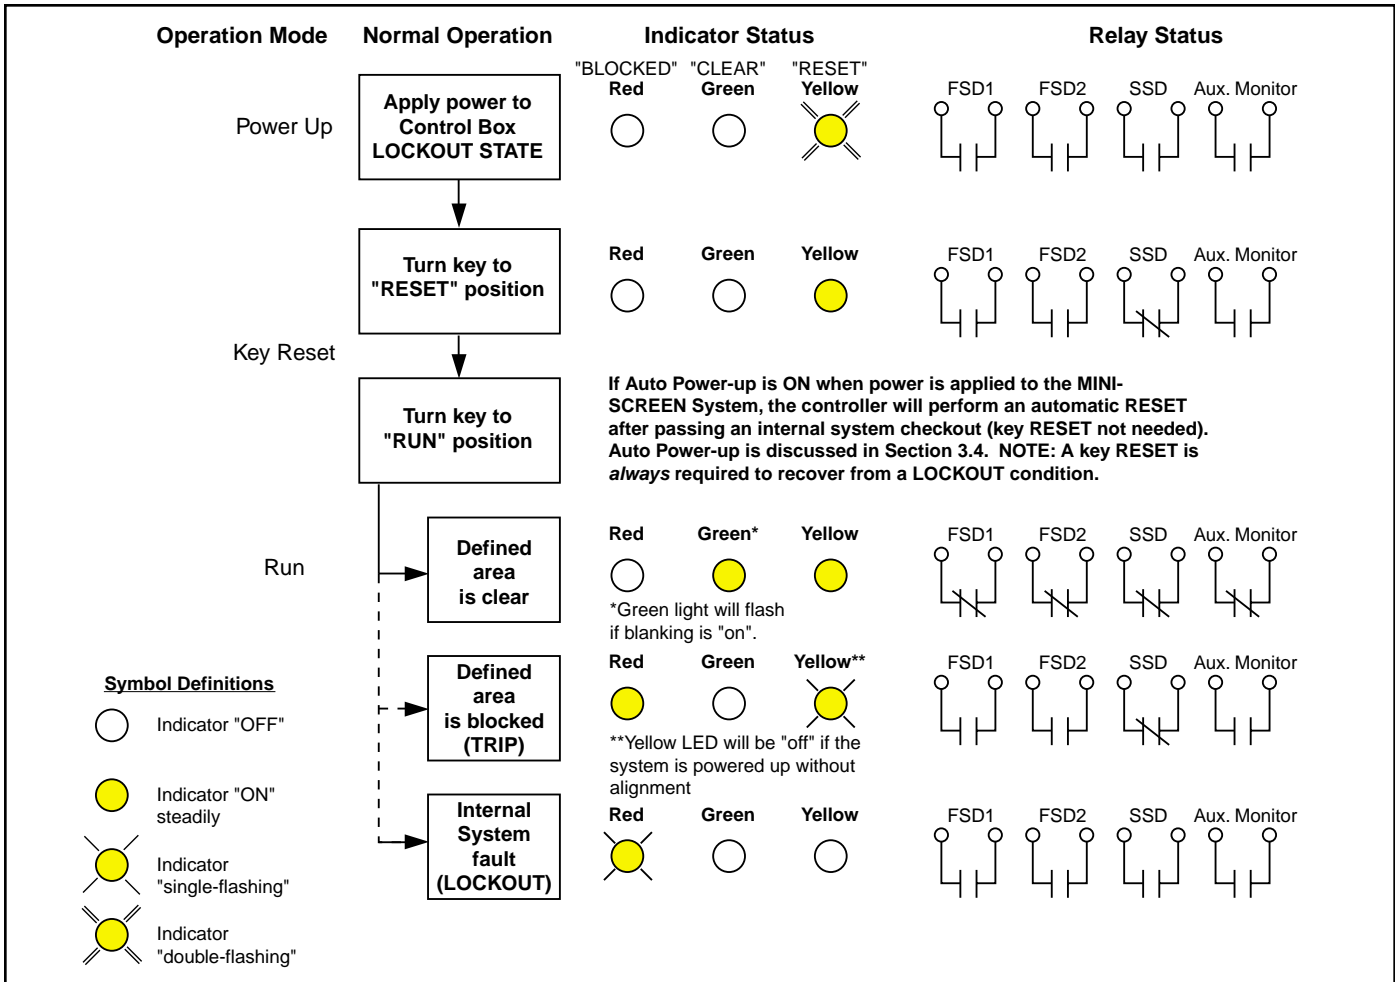

Figure 5. Operating Status Conditions
- 1) Upon "power-up" of the MINI-SCREEN System (unless Auto Power-up is "on"; see Figure 5, page 10),
- 2) If power to the MINI-SCREEN System is interrupted (unless Auto Power-up is "on"; see Figure 5),
A lockout condition resulting from an internal system fault is indicated by a flashing red status indicator LED on the control box and the receiver unit. The green and yellow LEDs will be "off". See Fig. 5, page 10.
Yellow (only) "on" and double-flashing: a *double-flashing* Yellow LED indicates a power-up or power interrupt lockout condition. *These lockouts occur in the normal course of powering up the MINI-SCREEN System or upon an interruption of power to the System (unless Auto Power-up is "on"; see Fig. 5). SSD, FSD1, FSD2, and Auxiliary Monitor contacts are open (de-energized).*